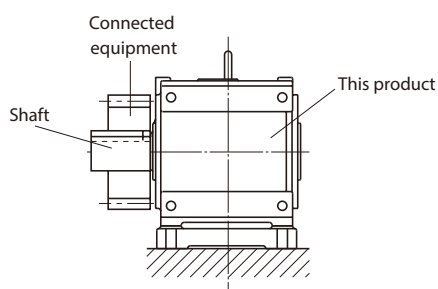
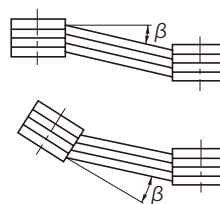

Figure 5-5
Figure 5-6
(2) When Using Chains, Sprockets, or Gears
- The load point of the sprocket or gear should be nearer to the product than to center of the shaft. (See Figure 5-5)
(3) When Using a V Belt
- The parallelism, eccentricity β between the two pulleys should be within 20° . (See figure 5-6)